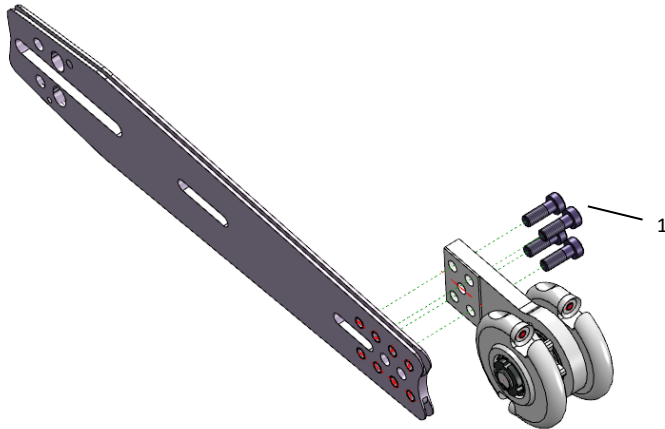

Fig. 9. Mounting the trough cutter ETH-C-Mini long
- Mount the trough cutter with the 4 cap screws (1- Fig 9). For most saws, the position of the two middle holes is suitable. If the chain is too short or too long when tensioning it, use one of the other positions.